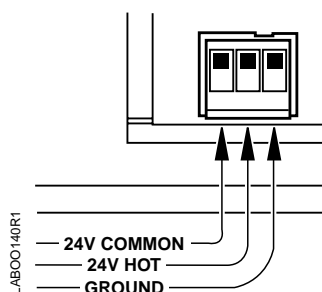

Figure 1. Power Trunk Connection.
1. Verify that the controller has 24 Vac power and that the fuse has been inserted into the trunk or that power to the transformer is ON. See *Figure 1*.